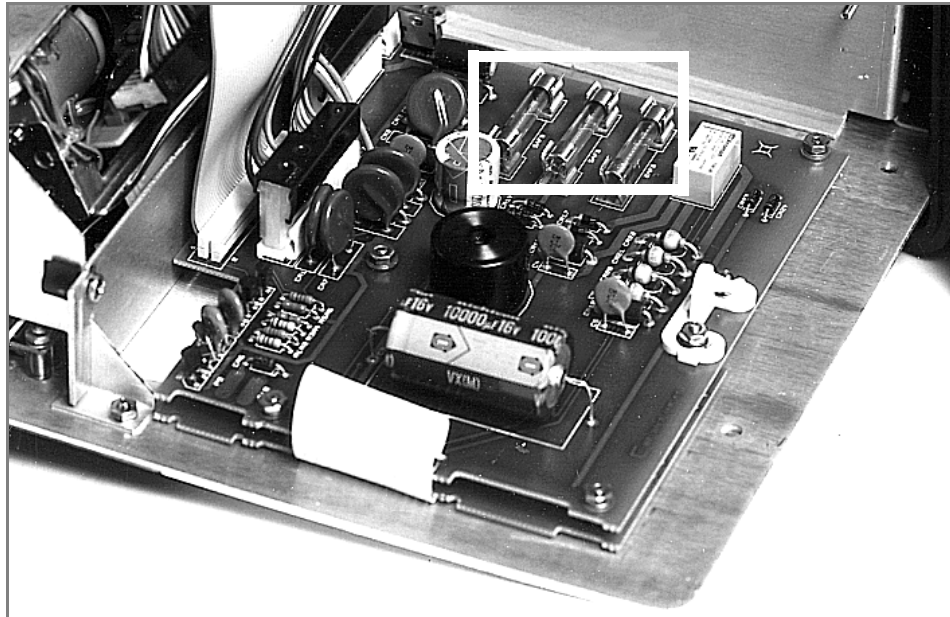

Figure 6-7 Location of the Three Fuses
2. Check all 3 fuses to see if they are blown (see Figure 6-7).